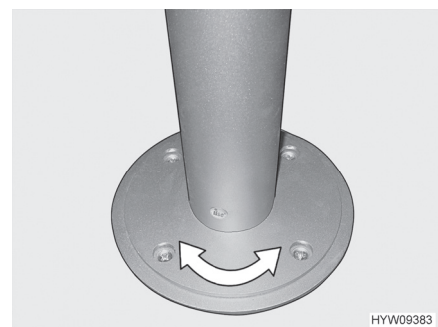

Fig. 82 Pillar table leg (rotatable)
- Rotate table top to the desired position. In order to do this, you need a little effort, because the table top rotates against the friction resistance on the pillar table leg (Fig. 82).